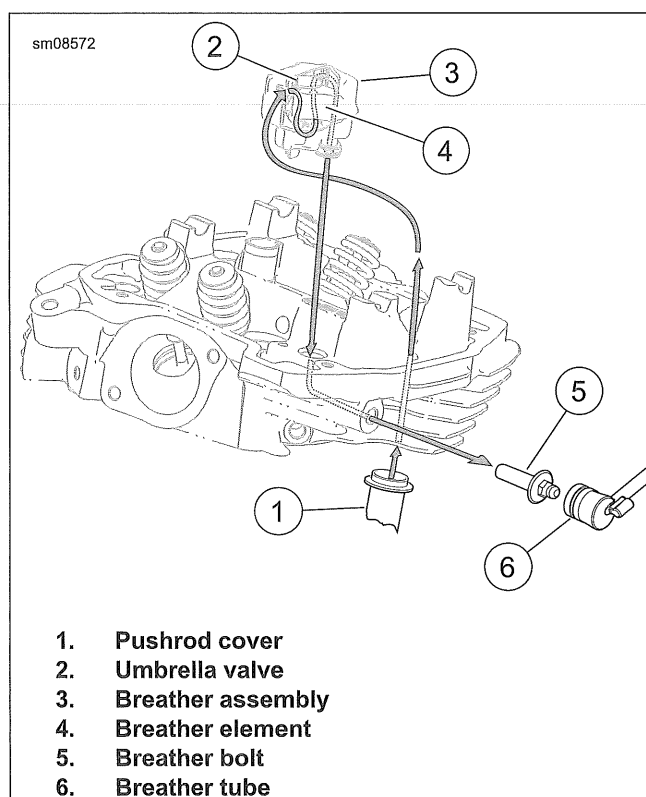

Figure 4-6. Breather Air Flow
See Figure 4-6. As pistons push downward, displaced air in the crankcase is vented through the crankshaft roller bearing into the cam compartment. The air flows up the pushrod covers (1) into the rocker housing. The moving air absorbs a small amount of oil vapor as it travels through the engine.